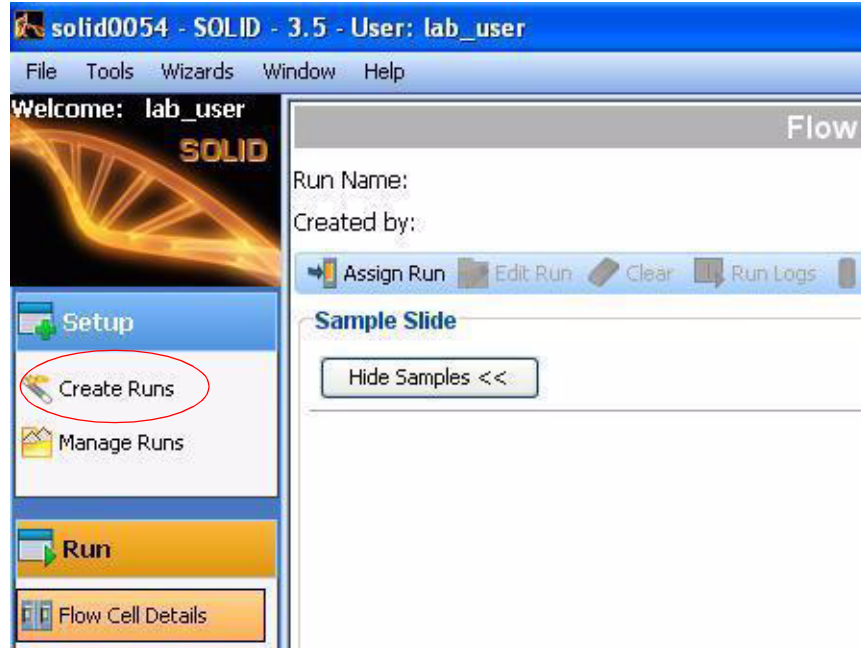

Figure 36 Use the run wizard to create a WFA run.
1. Click **Create Runs** in the Setup task pane on the left menu pane of the ICS (see Figure 36 on page 41).